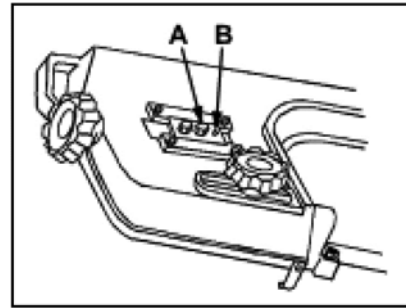

Figure 17: Blade tracking mechanism
5. Refer to *Figure 17*. Use a wrench to loosen bolt **A**, a small amount.